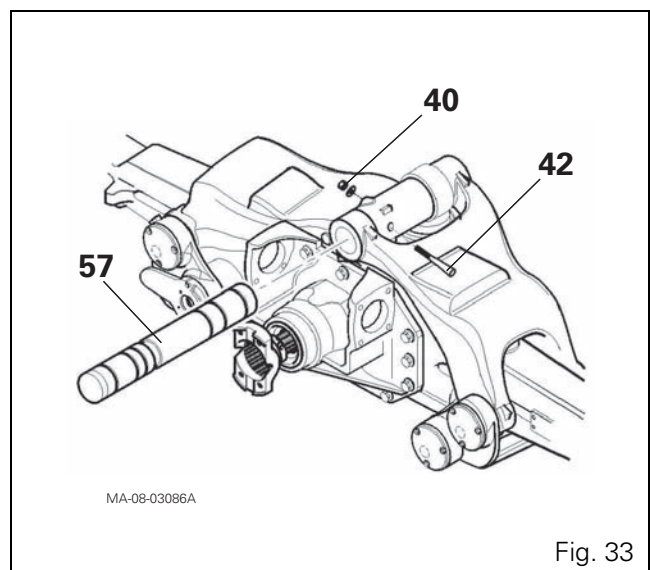

Fig. 33
- 37.** Align the arms and the suspension ram using tool ref. CA715382. Remove the tool gradually and then insert pin (57) (Fig. 33).
Fit taper pin (42). Fit the washer, mount and tighten nut (40) to 45 Nm (Fig. 33).